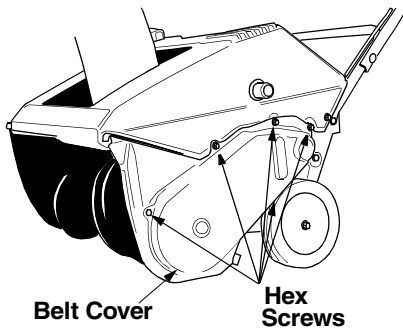

Figure 16
- Remove the belt cover by removing five hex screws that hold it in place. For location of the belt cover, see Figure 16.
- Remove the belt cover by removing five hex screws. See Figure 16.